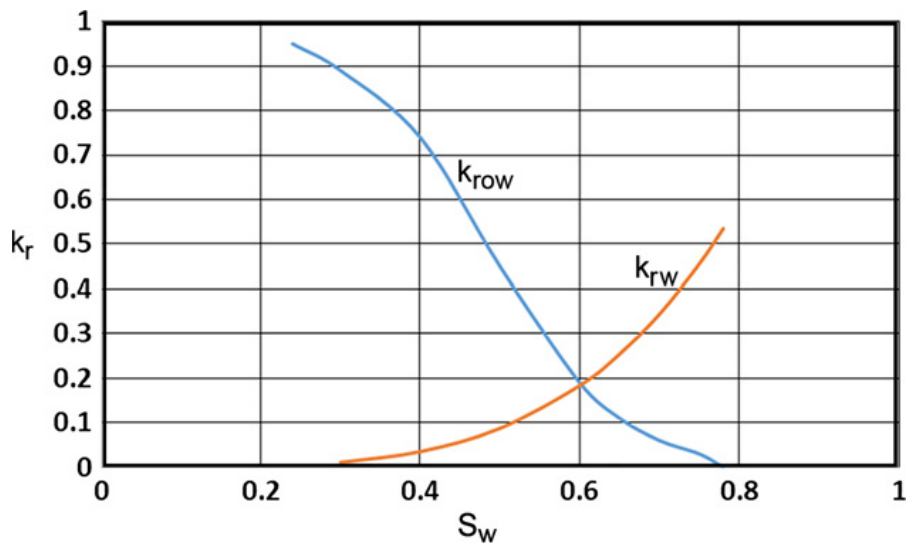

Fig 2. Relative permeability data
8. **A.** Using the relative permeability curve (Fig. 2) given below, plot the fractional flow curve on a graph paper for a dipping reservoir system under the waterflooding. The water injection rate in waterflooding is 1000 bbl/day. The oil viscosity is considered constant at 1 cP. Calculate the fractional flow curve for the reservoir dip angles of 10° and 20° , assuming
B. Explain the variation in the relative permeability curves of oil and water with respect to water saturation in the **Fig. 2** given above? Provide the values of the residual oil saturations and connate water saturations in Fig. 2? (C.O. No. 2) [Application]